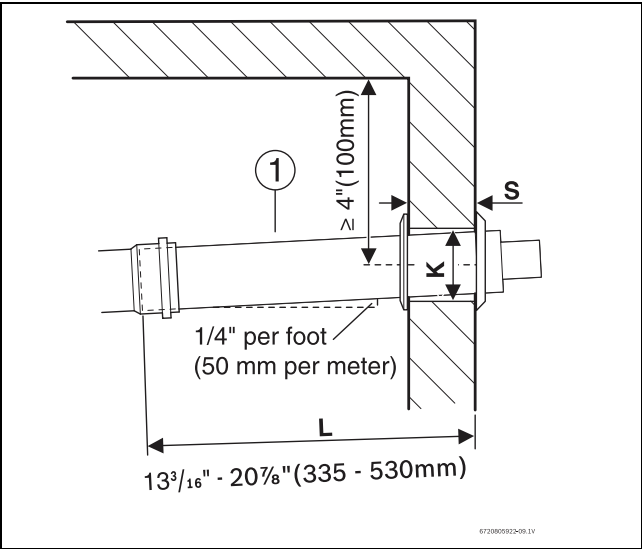

Fig. 7 Penetration through the outside wall
- Ensure all components are properly connected and aligned, and that the termination has the proper pitch as shown in Fig. 7.
- The entire termination can now be rotated left or right $\pm 40^\circ$ to redirect the plume ($\rightarrow$ Fig. 7).